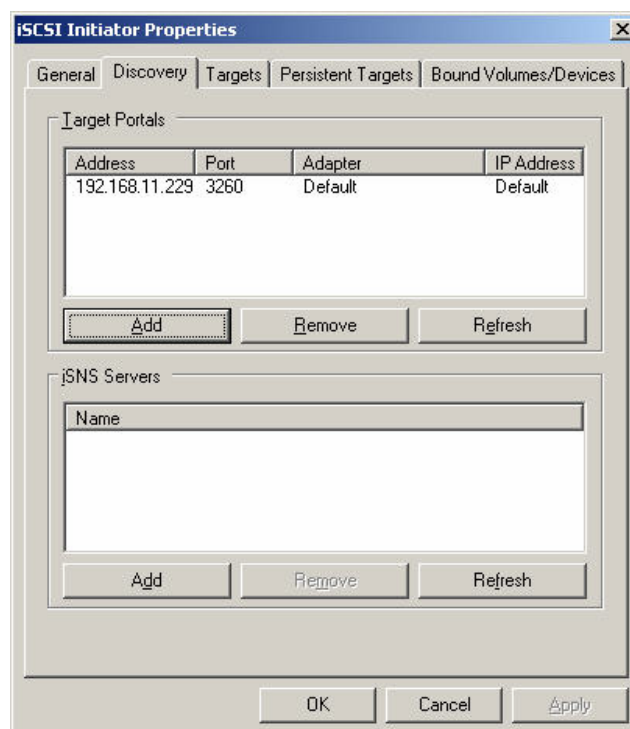

Figure D.3
4. Click **“OK”**. Please see Figure D.3.